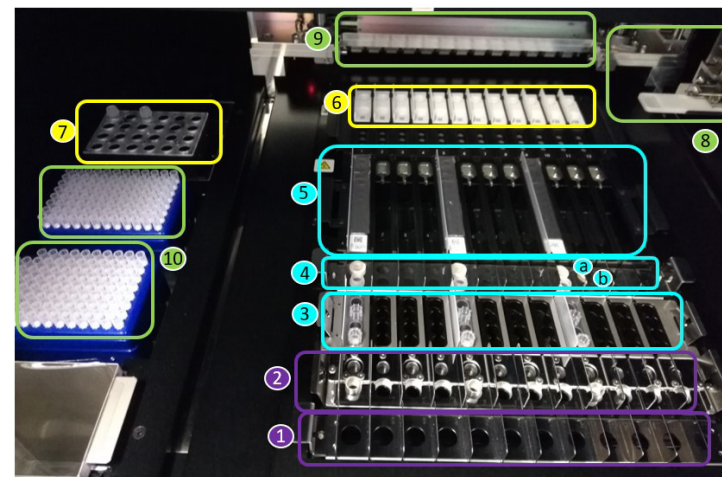

Figure 1: The «ELiTe InGenius» loading area
An overview of the «ELiTe InGenius» instrument is shown in Figure 1.
Figure 1 shows: Primary tube rack position (1), Extraction tube rack position (2), Tip rack position (3), Elution tube rack position (Dnase I tube + tube adapter (a) and Elution tube (b)) (4), Extraction cartridge rack position (5) and PCR cartridge rack position (6), PCR and Internal Control reagent block (inventory manager) position (7), sample and reagent dispensing (8, 9), the waste box (left-bottom) and tips positions (10).
6. To confirm that sufficient reagents for the number of tests selected are placed in the inventory manager position 7 (cfr. page 10, Figure 1) as indicated on the screen, press the "Next" button.
7. Place sufficient Tips racks in position 10 (cfr. page 10, Figure 1).
9. Place the PCR cassettes indicated in position 6 (cfr. page 10, Figure 1).
11. Place the Extraction cartridge cassette(s) indicated in position 5 (cfr. Page 10, Figure 1).
13. Place the DNase I, into the DNase I tube adapter, indicated in position 4 (cfr. Page 10, Figure 1).
15. Place the amount of elution tubes, indicated in position 4 (cfr. page 10, Figure 1).
17. Place the amount of Tip cassettes indicated in position 3 (cfr. page 10, Figure 1).
19. Place the amount of extraction tubes indicated in position 2 (cfr. page 10, Figure 1).